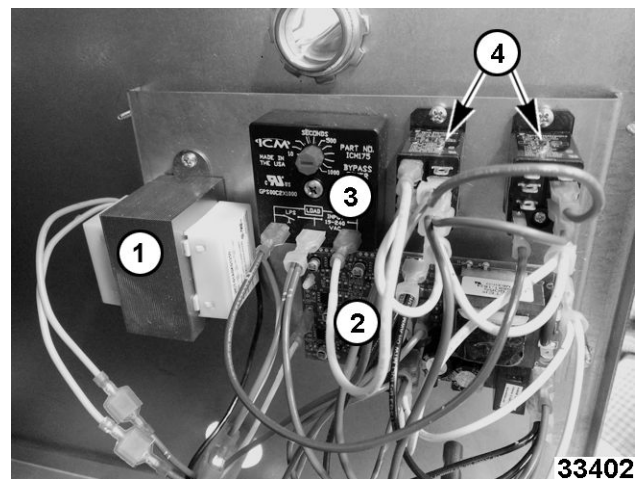

Fig. 55
- Transformer. (1, Fig. 55)
- Low Water Control Board. (2, Fig. 55)
- Time Delay Relay. (3, Fig. 55)
- Relay Switches. (4, Fig. 55)